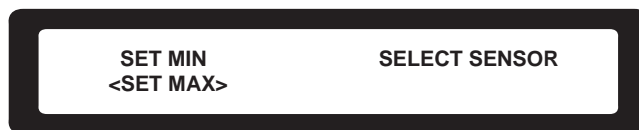

Figure 22. Angle Alarm Menu Screen
4. Press the MODE button (figure 2, item 3) and down arrow button (figure 2, item 4) on the LMI receiver panel (figure 2, item 2) once to reach the angle alarm menu screen (figure 22). If SET MAX is not already highlighted, press the up arrow button (figure 2, item 5) or the down arrow button (figure 2, item 4) on the LMI receiver panel (figure 2, item 2) until SET MAX is highlighted.
7. Save the setting by pressing the MODE button (figure 2, item 3) and the down arrow button (figure 2, item 4) on the LMI receiver panel (figure 2, item 2) once. The saving screen (figure 9) will appear briefly. Once the save is complete, the saving screen will be replaced by the angle alarm menu screen (figure 22).
4. Press the MODE button (figure 2, item 3) and the down arrow button (figure 2, item 4) on the LMI receiver panel (figure 2, item 2) once to reach the angle alarm menu screen (figure 22). If SET MIN is not already highlighted, press the up arrow button (figure 2, item 5) or the down arrow button on the LMI receiver panel until SET MIN is highlighted.